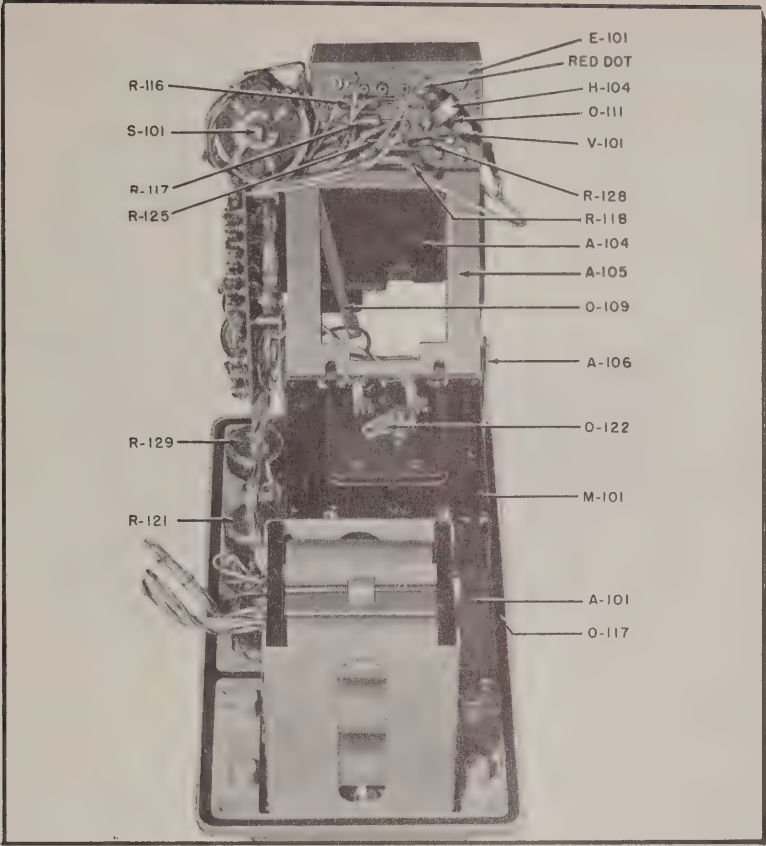

Figure 5-4.
d. The replacement of tubes in Radiacmeter IM-75/PDR-18A necessitates removal of the front panel assembly from the instrument case. Refer to figure 5-2 and loosen the six retaining bolts ($\frac{3}{8}$ in. hex) marked H-106 on the front cover. Make sure that the front panel range selector switch, S-101, is in the OFF position. Lift these bolts up until they reach the stop washer, let them hang to one side, and lift the front panel assembly of Radiacmeter IM-75/PDR-18A out of the instrument case. Place front panel assembly on table top with carrying handle on the bottom as in figure 5-3. The cathode follower tube V-101 is located on terminal board E-101 mounted under the sub-assembly chassis, A-105. Remove the four sub-assembly chassis retaining screws and the meter linkage pivot screw H-109, identified in figure 5-3. Lift the sub-assembly chassis A-105 and swing it back on the hinges in the mounting brackets, A-106, as in figure 5-4. Remove tube V-101 from terminal board, E-101, by removing tube clamp, H-104, and unsoldering the leads. Observe lead connections and position of red dot on base of V-101 carefully. Replace with new type CK522AX tube, with red dot and leads in the same position as old tube.
a. Certain parts in Radiacmeter IM-75/PDR-18A which contain organic materials subject to mold growth are coated with fungus-proofing compound. This compound is subject to deterioration with age and must be renewed every 12 months. To renew this coating, first remove the front panel assembly Radiacmeter IM-75/PDR-18A from the instrument case as directed in paragraph 1*d*. Refer to figure 5-3 and remove the four sub-assembly chassis retaining screws and the meter linkage pivot screw H-109. Refer to figure 5-4 and lift the sub-assembly chassis A-105 and swing it back on the hinges in the mounting brackets, A-106. Clean all surfaces to be coated, using Federal Specification cleaner TT-T-291 or TT-M-95. If perceptible moisture is present, dry Radiacmeter IM-
assembly of Radiacmeter IM-75/PDR-18A out of the instrument case. For some troubleshooting procedures in Radiacmeter IM-75/PDR-18A, it will be necessary to swing back the sub-assembly chassis, A-105. Whenever this step is directed, remove the four sub-assembly chassis retaining screws, and the meter linkage pivot screw H-109, identified in figure 5-3. Lift the sub-assembly chassis A-105 and swing it back on the hinges in the mounting brackets, A-106, as in figure 5-4.
(1) To replace range selector switch S-101, remove the front panel assembly from the instrument case as directed in paragraph 4a of this Section. Remove batteries from battery box BT-101 as described in paragraph 1b of this Section. Turn the range selector switch to the OFF position. Remove the four sub-assembly chassis retaining screws and the meter linkage pivot screw H-109, identified in figure 5-3. Lift the sub-assembly chassis A-105 and swing it back on the hinges in the mounting brackets, A-106, as in figure 5-4. Remove all electrical connections to selector switch S-101. Loosen set screws on cams O-103, O-104, O-105 and O-121. Unscrew hexagonal clamping nut that secures range selector switch S-101 to sub-assembly chassis A-105 and carefully remove the switch, being careful not to drop the hexagonal clamping nut and its associated washer, or cams O-104 and O-105.
(1) To remove meter M-101, remove the front panel assembly from the instrument case, as directed in paragraph 4*a* of this Section. Remove batteries from battery box BT-101 as directed in paragraph 1*b* of this Section. Turn the range selector switch to the OFF position. Remove the four sub-assembly chassis retaining screws and the meter linkage pivot screw H-109, and swing sub-assembly chassis A-105 back on its hinges in the mounting brackets A-106, as in figure 5-4. Remove the two electrical connections to meter M-101. Loosen the set screw in arm O-122 and remove arm O-122 from meter scale changing shaft. Unscrew the four spacing posts H-115 in each corner of meter M-101. Spacing posts H-115 are slotted to accommodate a screwdriver. Remove meter M-101 and replace with new meter. Replace the four spacing posts H-115. Replace arm O-122 on meter scale changing shaft, but do not tighten set screw in arm O-122. Return sub-assembly chassis A-105 to its normal position and replace the four sub-assembly chassis retaining screws. Place meter scale changing linkage O-109 over meter scale changing arm O-122 and replace meter linkage pivot screw, H-109. Rotate meter scale changing arm O-122 to its most clockwise position, so that the edge of the meter scale changing linkage O-109 is bearing against the bracket of sub-assembly chassis A-105 that supports the photomultiplier tube housing A-104. Without moving arm O-122, rotate the meter scale changing shaft clockwise as far as it will go. Tighten set screw in arm O-122. Replace electrical connections to meter M-101.